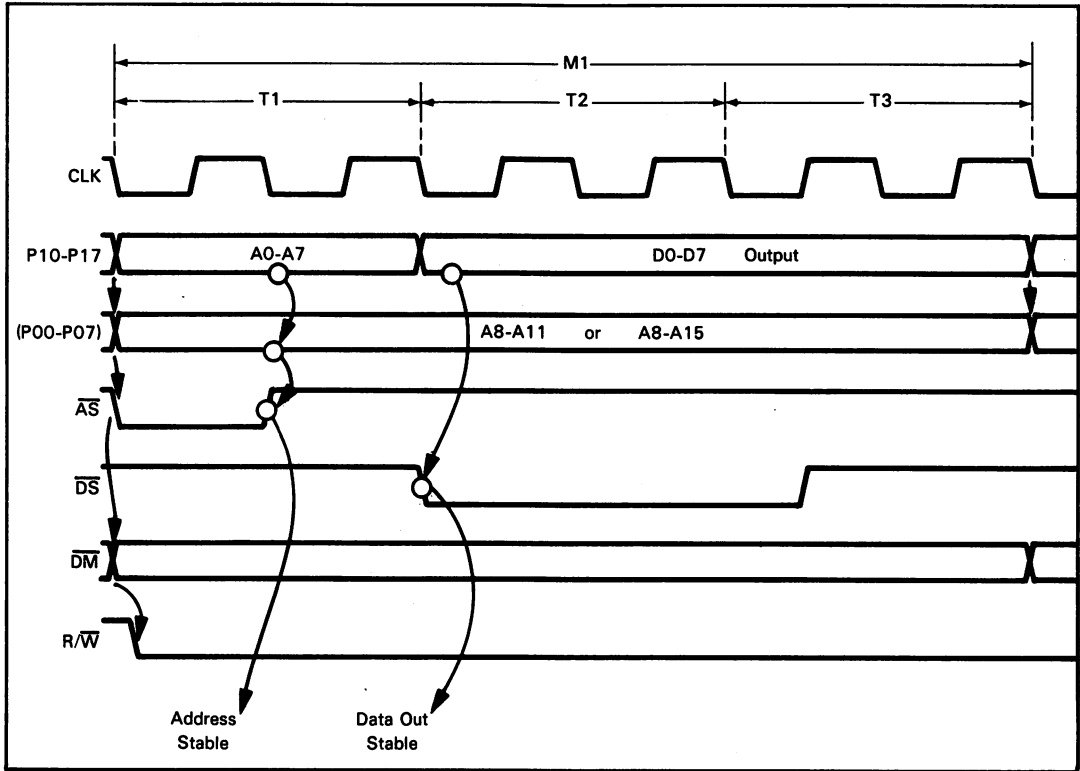

Figure 8-7. A Z8 Memory Write Machine Cycle
**Turning now to a Z8 memory write machine cycle, timing illustrated in Figure 8-7 does not differ significantly from Figure 8-6.** Address logic remains the same. Once again  $\overline{AS}$  is pulsed low for the first half of the first clock period; on the trailing edge of  $\overline{AS}$ , the low-order address byte occurring at P10 - P17 must be latched, but any address output via P00 - P07 need not be latched since it remains stable for the entire machine cycle.